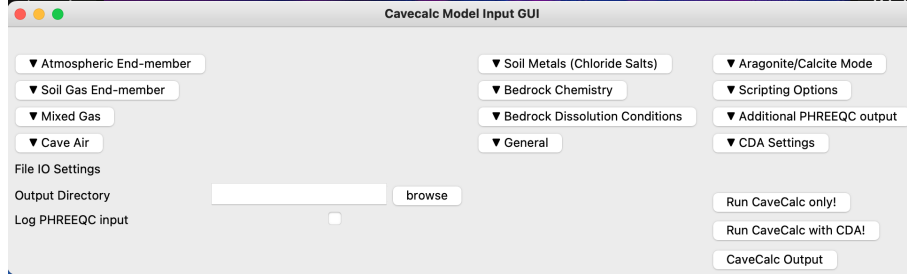

Figure 1: CaveCalcV2.0 GUI. Inputs are grouped under drop-down headings for ease of navigation.
- Open the GUI (see section 1.4). The GUI should look something like Figure 1.
- In the bottom left of the GUI (Figure 1), you are able to chose an output directory
In the **GUI**, users can define the precipitate mineralogy through the drop-down heading Aragonite/Calcite Mode (Fig. 1). This option allows the user to choose either Calcite or Aragonite as the precipitating mineral.